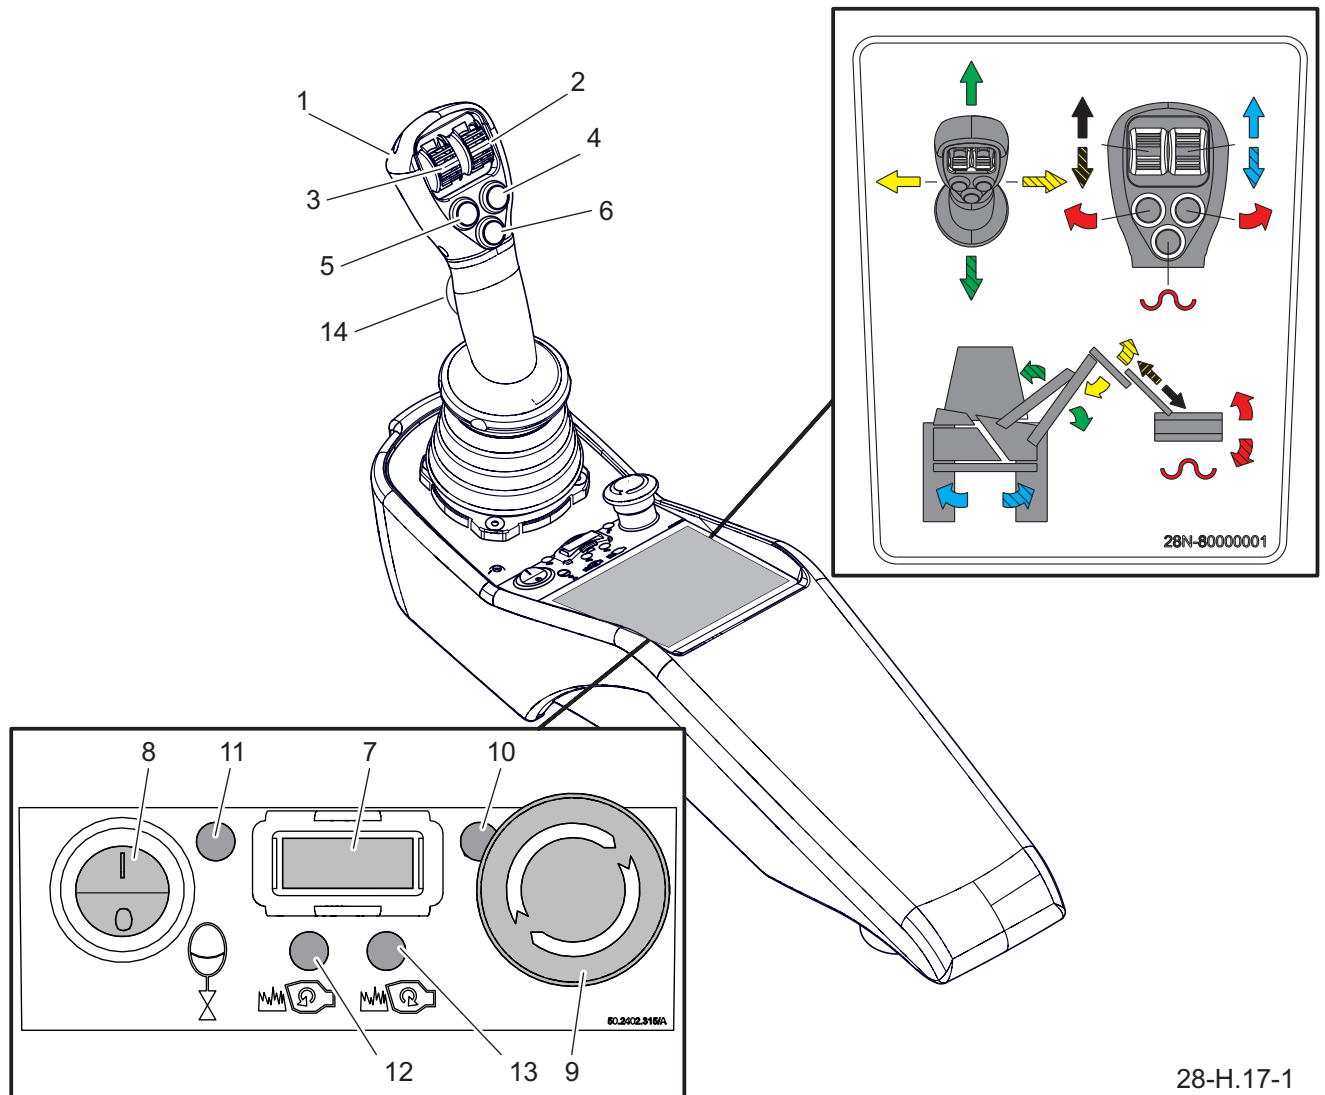

Figure 4.7 Controlling WWT804D multifunction arm.
The arms of the WWT804T multifunction arm and the working head are controlled by means of the control panel with joystick inside the carrier vehicle (tractor) (FIGURE 4.7).
Before manoeuvring the multifunction arm, confirm that the power supply switch of the control panel (9) (FIGURE 4.7) is in the unlocked position. If the switch is depressed and locked, turn it to unlock. Activation of the power supply of the control panel is signalled by the indicator light (10).
mounting (1) (FIGURE 4.7) shows the joystick control diagram.
To control the multifunction arm movements, the operator must hold the joystick and press the safety button simultaneously (14) (FIGURE 4.7). This prevents accidental activation of the multifunction arm hydraulic cylinders when the joystick is unintentionally touched.
(FIGURE 4.10). In the case of WWT804T multifunction arm, set the switch (8) (FIGURE 4.7) of the arm shock absorbing unit to OFF position.
(FIGURE 4.7) (WWT804T) in order to place the working head in the working area (FIGURE 4.11);
- turn on the hydraulic motor which drives the working head using the multifunction arm's controls (FIGURE 4.6) (WWT800T) or (FIGURE 4.7) (WWT804T);